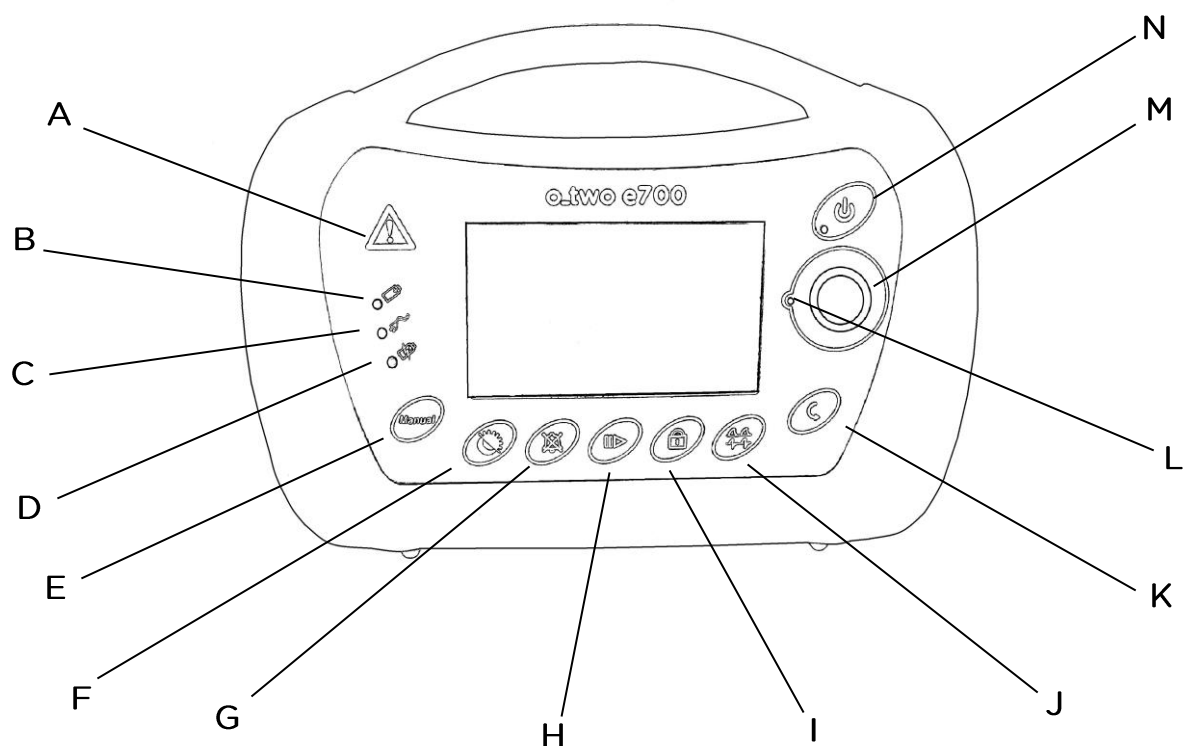

Figure 1
While all ventilation parameter settings are controlled by the Control Selection Knob (M) in Figure 1, there are a number of key membrane buttons which control additional ventilator functions:
To turn on the ventilator, Press the ON/OFF button (N) in Figure 1 for one second, during that second the associated green LED will start flashing at a high frequency. After 1 second the ventilator will turn on but without ventilation until the appropriate patient size symbol is selected. If the button is pressed and released for less than a second, the ventilator will remain OFF.
The Control Selection Knob (M) in Figure 1 is used to navigate between parameters, change modes, select primary function change when rotated, and to confirm function changes when pressed. Diagram below illustrates path of cursor when Control Selection Knob is rotated clockwise.
- 1- Press Lock button (I) in Figure 1. The Lock symbol will be displayed on the screen.
- 2- To cancel the Lock function, press the Lock button (I) again.
Alarm Silence button (G) in Figure 1 will silence audible alarms for 120 seconds. It can also be selected when there is no alarm in order to silence potential alarms. This function is activated or deactivated by pressing the Alarm Silence button once.
Pressing Waveform selection button (J) in figure 1 will switch between the pressure and volume ventilation waveforms displayed on the screen.
The Cancel button (K) in Figure 1 allows the operator to return to the previous settings if the last unconfirmed changes in settings are not required.
During activation of the Pause/ Resume button (H) in Figure 1, the ventilator will stop ventilating with all buttons kept active (if they are not locked) except Manual/ Hold button.
- a. During Pause, there will be an audible alarm associated with the flashing yellow Warning indicator (A) in Figure 1 every 15 seconds. Users can press Alarm Silence button to disable the audible alarm for 2 minutes but the yellow Warning indicator will continue flashing every 15 seconds.
4. To cancel Pause function, press Pause/ Resume button (H) again. The "Resume" symbol will flash on the screen with the confirmation symbol  and the Confirmation indicator (L) to guide users to resume ventilation by pressing the Control Selection Knob (M).
During exhalation phase, if Manual/ Hold button (E) in Figure 1 is pressed, a mandatory breath will be initiated and either the flow rate or set pressure control parameter will be delivered as long as the Manual/ Hold button is pressed or until I-time setting is achieved.